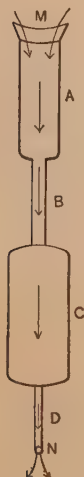

FIG. 22. Series arrangement of pipes; same current in each.
**14. Series Circuit. Current.** If we join four pipes  $A$ ,  $B$ ,  $C$  and  $D$ , Fig. 22, of unequal diameters together in series, and force a current of water through them, the water cannot go in at  $M$  in any greater quantity per second than it comes out at  $N$ . There must be the same current (gallons per second) flowing through each pipe no matter what its size, because no more or less can go through one than goes through all the others.